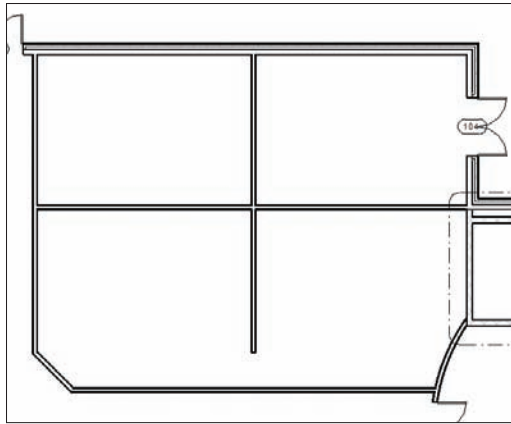

FIGURE 4.44 Zoom in to this area to start trimming the walls.
4. Zoom in on the area, as shown in Figure 4.44.